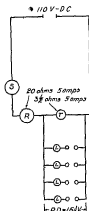
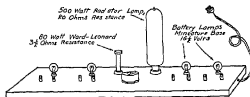

Fig 21a
Fig 21b
board* (Fig 21b), and note whether the lamp glows or not (?) The cell is in series with the lamp and, if the lamp glows, the solution is a conductor. If it does not glow, the solution is a non-conductor. When the same experiment has been shown in the class-room, the result may be recorded here and the experiment omitted. Wash the cell and electrodes and wipe the latter very carefully after each trial.
* A storage battery of three lead cells or five Edison cells in series may be used, but is always in danger of being ruined by short-circuiting through carelessness. Protection by means of a fuse leads to continual interruptions of the work. Where direct current is employed in the lighting system, the best plan is to use the circuit through two resistances of such ratio to each other as to give the desired potential by the drop over one of them. Thus, if we place a 20-ohm, and a 3.5 ohm resistance on a 110 volt circuit (Fig 21a, diagrammatic), the potential drop over the lower resistance will be about 16.5 volts. If these resistances be of sufficient carrying capacity (say, 5 amperes), then four different current outlets may be provided — each one with plenty of current for one of the electrolytic cells previously described. Each of these outlets is in series with a small battery lamp, used as an indicator of the flow of current through the cell (Fig 21b).